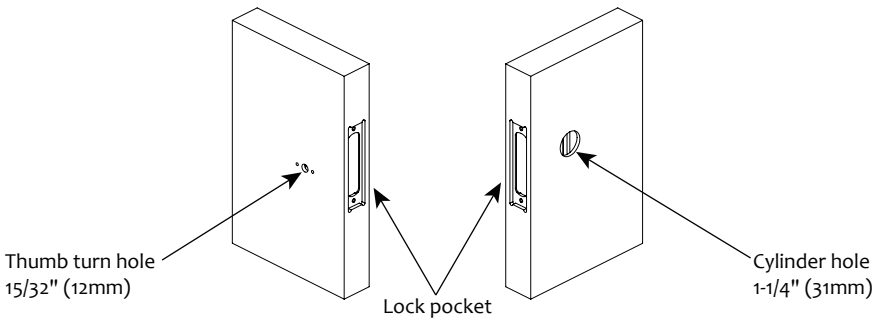

Figure 4
- Clear pocket 3-19/32"×13/16"×3-15/16" (91.1×20.5×100mm) for lock body. (Figure 4)